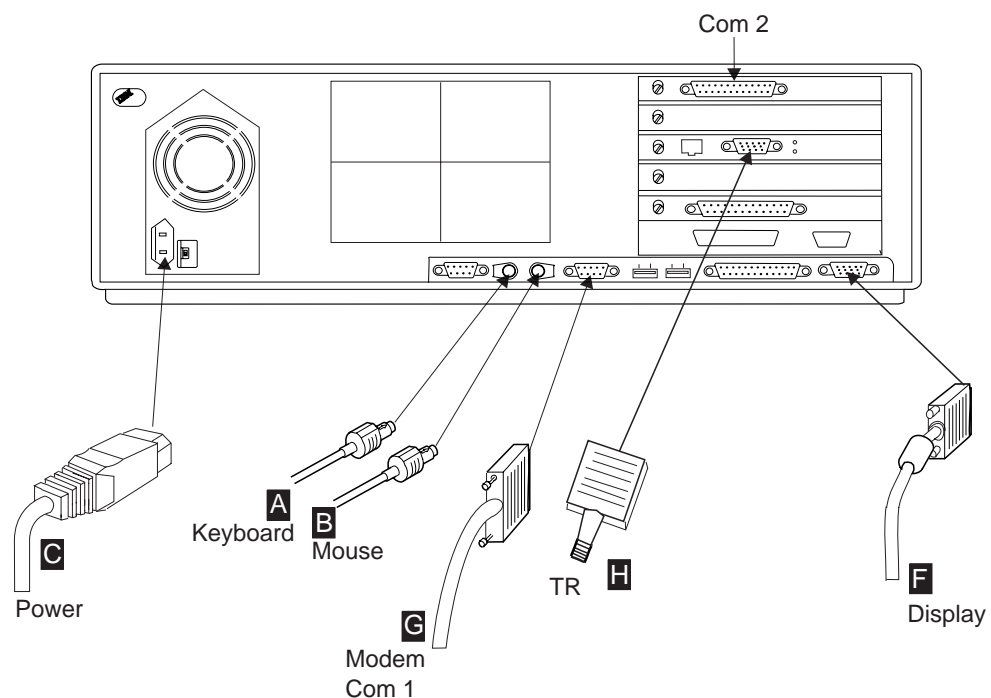

Figure 1-11. Cable Locations
15. ____ **Connect** the cables to the 7585 as follows (see Figure 1-11):